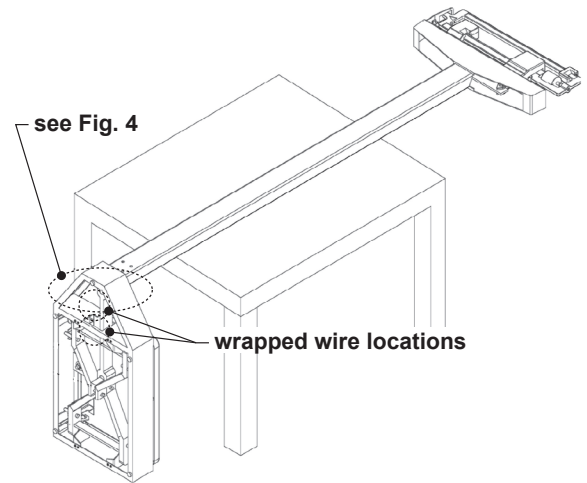

Fig. 3: Steelyard Rod Attachment
1. Place the scale on a table or flat working surface as shown in Fig. 3.
2. The long lever extends through the center of base length. Wires are wrapped around the long lever at the factory, securing it to the base, to prevent movement during shipping. Wrapped wire locations are shown in Fig. 3. Remove and discard these wires.